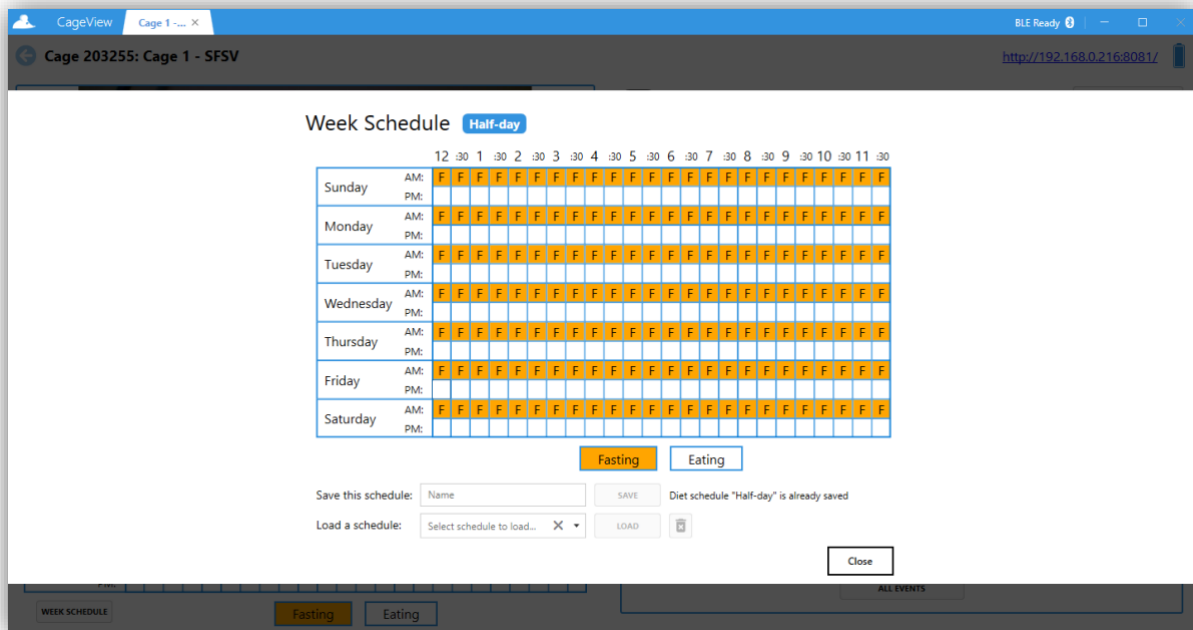

Figure 20. Week schedule dialogue - diet saved
5.2.6. The saved diet schedule's name will be presented by a badge at the top of this dialogue, as shown in **Figure 20**.